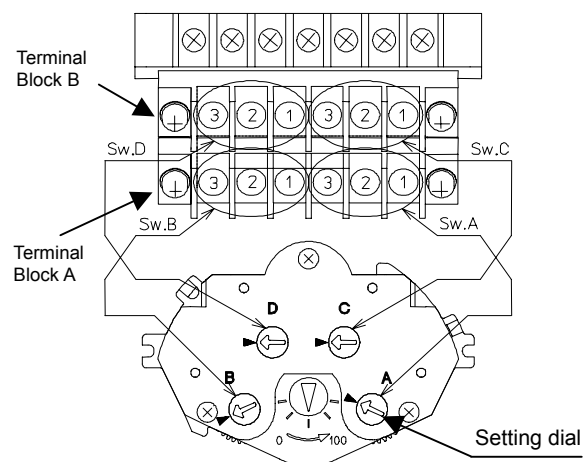

Figure 6. Setting example of the auxiliary switch with its position set to 50 %
6) Setting of the auxiliary switch operating position (Fig. 6 shows a setting example of the switch operating at a 50 % open position.)
- (1) Set the setting dials of the auxiliary switch to the position where you want the switch to operate, by motor-driven operation. Then, using a slotted screwdriver, turn the setting dial until its arrow points at the the position with ► marked. (See Fig. 6.)
- (2) Operate (open and close) the control motor several times near the preset position to confirm that the switch works normally.